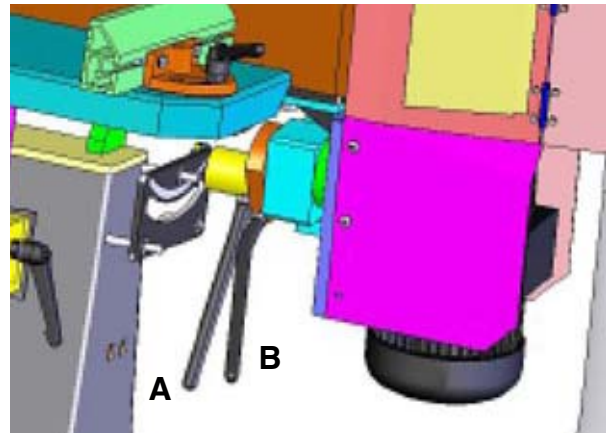

Fig. 6: Angle adjustment of the sanding belt
Step 2: Release the lock for the angle adjustment by loosening the clamping lever A (Fig. 6).
Step 3: Swivel the grinding unit with lever B (Fig. 6) at the desired angle (from 90 ° to 45 °) and lock it with lever A after reaching the desired angle.